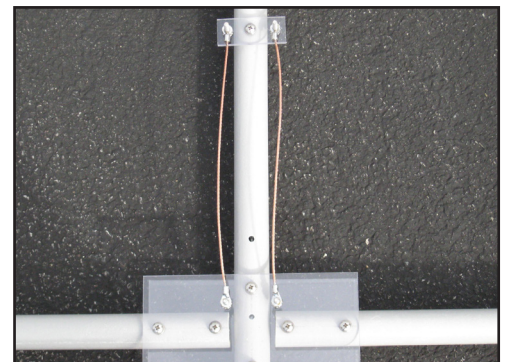

Fig. 70
- Select the two (2) wires that form the Balanced Feed-line that connects the 17M Elements to the 20M Elements. Place the wire lugs over the terminals as shown in Fig. 70. Place one of four (4) 10-24 SS Hex Nuts over each terminal. Tighten well.